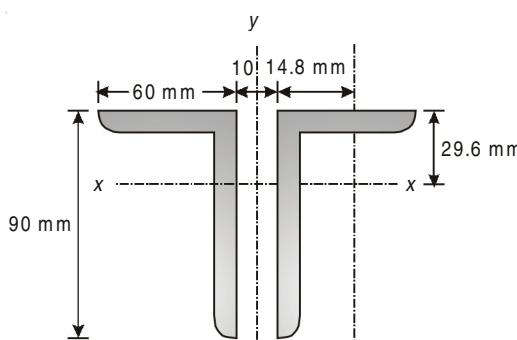

Fig. 7.16
- 7.23. A compression member 3500 mm long in a roof truss consists of two unequal angles ISA 90 \times 60 \times 8 with their longer legs connected back to back with a separating distance of 10 mm between them as shown in Fig. 7.16. It is fixed at one end and hinged at the other. Find the safe axial load for the compression member using a factor of safety 3.